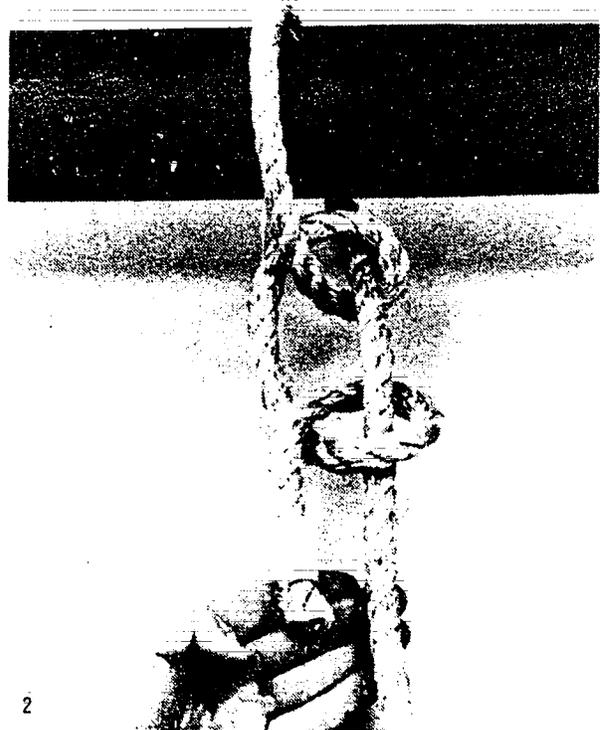

Figure 7-18. Round Turn and Two Half Hitches
- turns around the pole before making the two half hitches as shown in Figure 7-18.